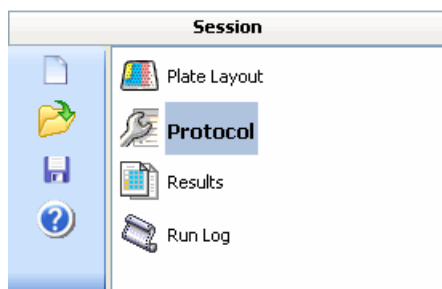

Figure 6-1. Available execution order types
- **Execution order** - Select the direction in which the steps are executed on the plate. The black dot designates the starting point and the arrows show the execution order (Figure 6-1). Use the up and down arrows to switch between the different options. Use an execution order that is best aligned to the defined measurement area(s).
- **Execution order** - Select the direction in which the steps are executed on the plate. The black dot designates the starting point and the arrows show the execution order (Figure 6-1). Use the up and down arrows to switch between the different options. Use an execution order that is aligned to the defined measurement area(s).